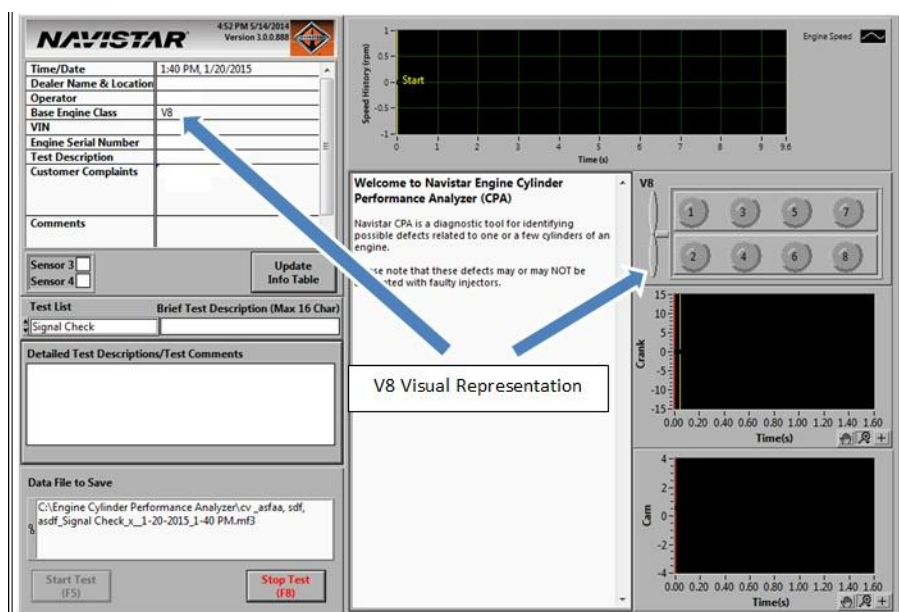

Figure 2: Cylinder Performance Analyzer Information Table
2. If done properly, the engine misfire display figure shows an 8 cylinder engine shown in Figure 2.